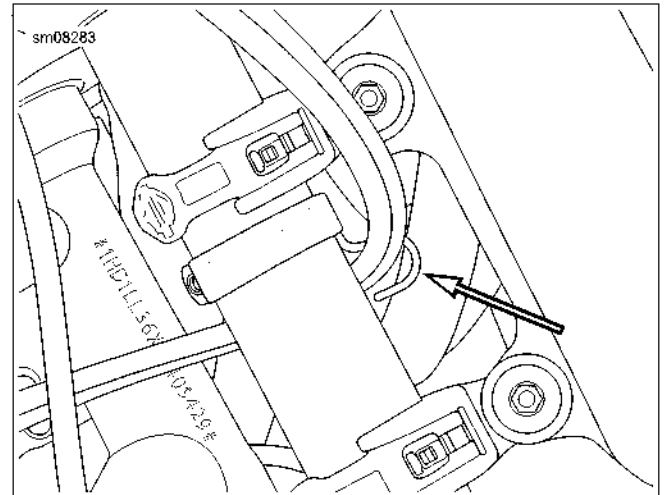

Figure 2-112. Throttle Cable Clip: XL 1200T
4. **XL 1200T:** See Figure 2-112. Remove clip from around throttle cables and fork slider tube.